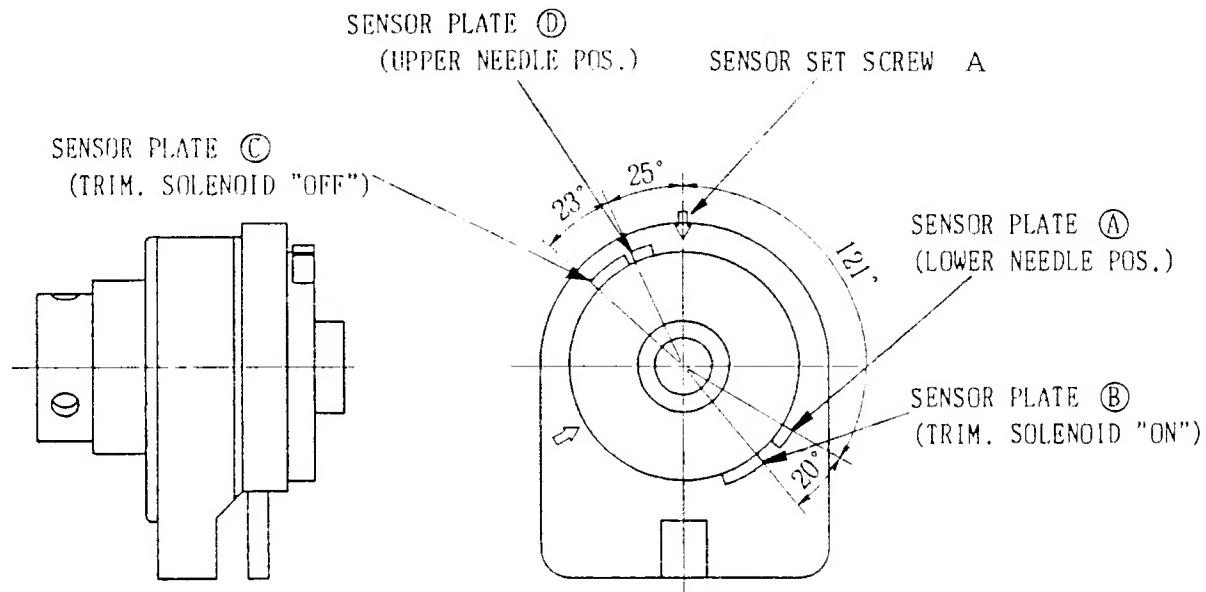

Fig.3
- 1) The positions of the sensor plates (for upper and lower needle positions and for controlling the trimmer solenoid) in relation to the sensor set screw A should be as shown in Fig.3. To adjust the position of a sensor plate, loosen screw on right end of the sensor and turn sensor plate as required, then tighten the screw.